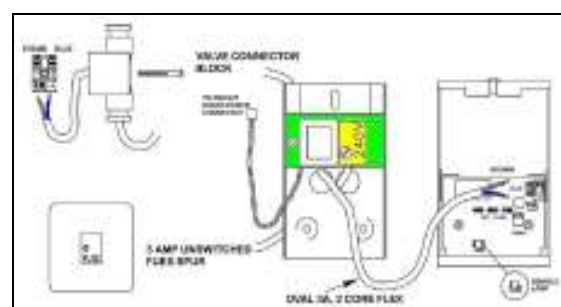

Fig 4 (mains powered model)
3. ADDITIONAL INSTRUCTIONS FOR MAINS POWERED VERSION (refer to fig 4.)